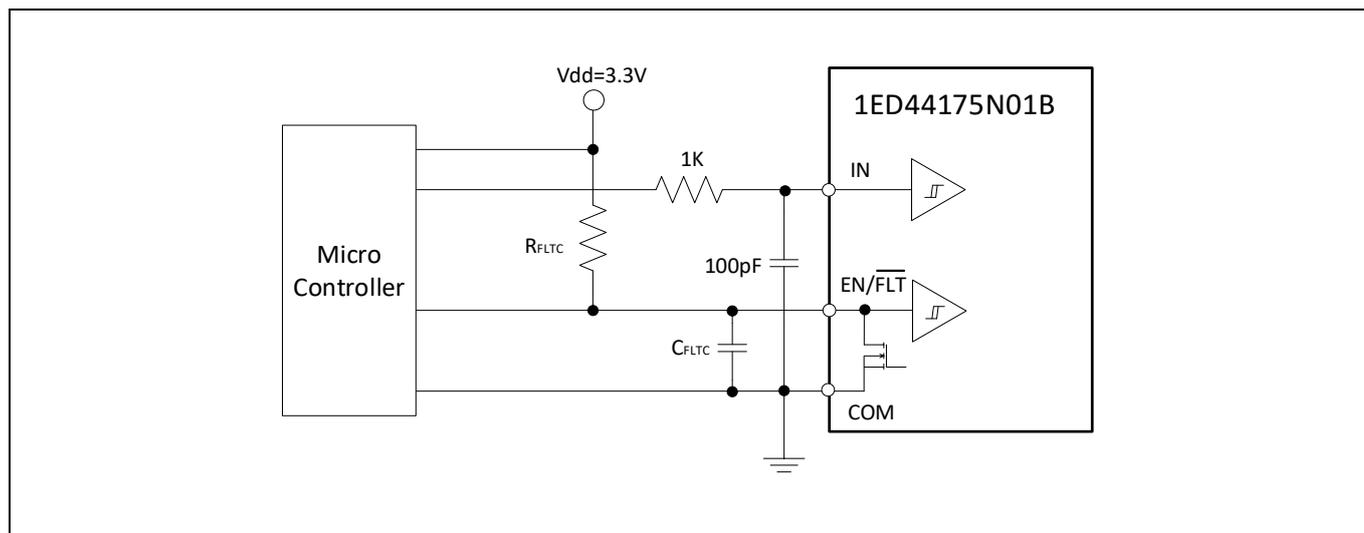
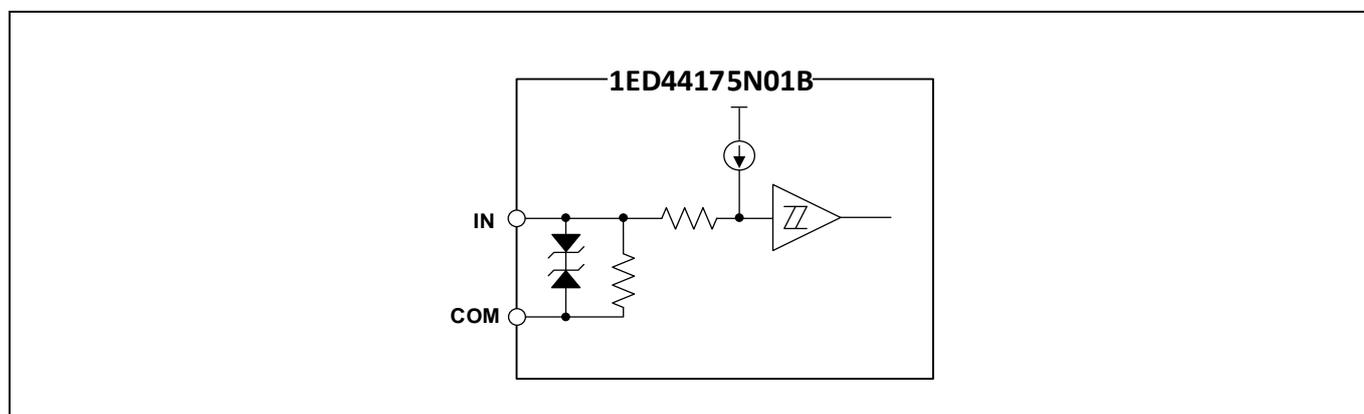

Figure 3 Recommended micro-controller I/O interface circuit
Figure 4 Simplified input structure diagram of 1ED44175N01B
- To prevent signal oscillations, an RC coupling is recommended as illustrated in Figure 3.
Figure 3 shows the I/O interface circuit between a micro-controller ( $\mu\text{C}$ ) or digital signal processing (DSP) and the 1ED44175N01B. The 1ED44175N01B input logic is active-high. The  $\text{EN}/\overline{\text{FLT}}$  output is an open-drain configuration. This signal should be pulled up to high by an external logic power supply with a pull-up resistor. RC (1 K $\Omega$  / 100 pF) is recommended for the “IN” pin to prevent input noise.
As shown in Figure 4, the 1ED44175N01B input signal section integrates a pull-down resistor. Therefore, when using an external filtering resistor between the micro-controller output and 1ED44175N01B input, pay attention to the signal voltage drop at the 1ED44175N01B input terminal. It should fulfill the logic "1" input voltage requirement. For instance,  $R = 1$  k $\Omega$  and  $C = 100$  pF are recommended for the parts shown in Figure 3.